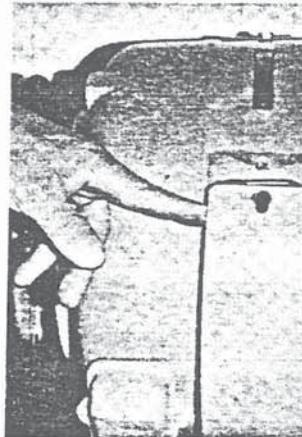

Fig. 8-2
- b-2) Remove the ventilation cover on the driven side. (GGG Type: with built-in fan) (Fig. 8-2)